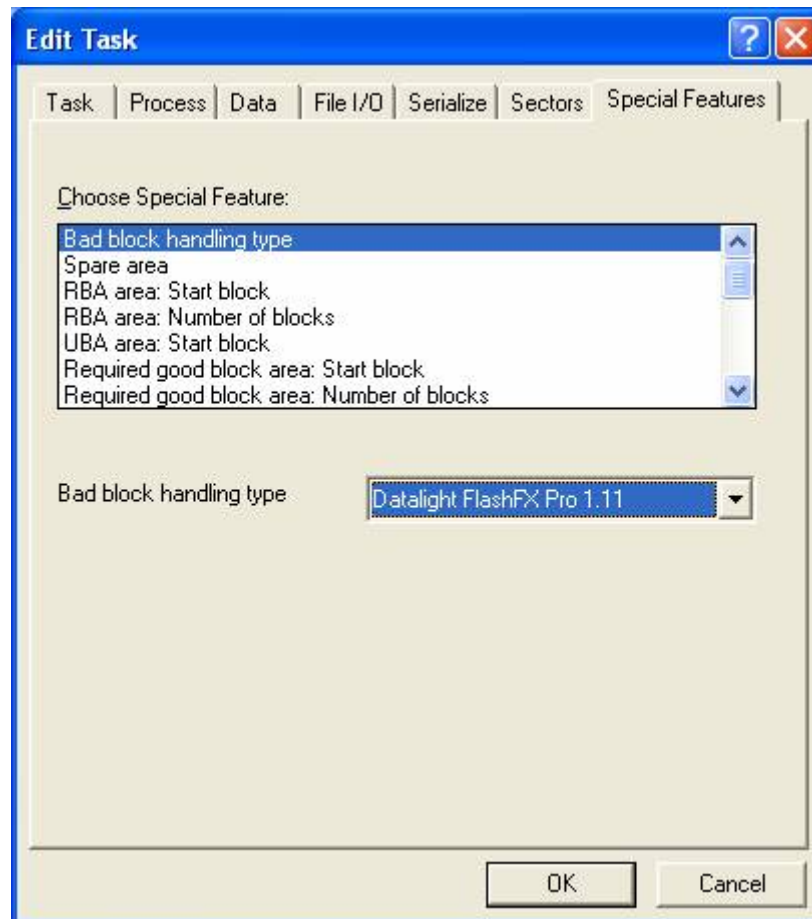

Figure 2: TaskLink Special Feature dialog box.
- Selecting any NAND flash device, will automatically invoke the *Special Features* dialog box; select a bad block handling type from the drop down list shown in Figure 2 below. For FlashFX Pro, use the bad-block method called “Skip Customer 1” as shown.